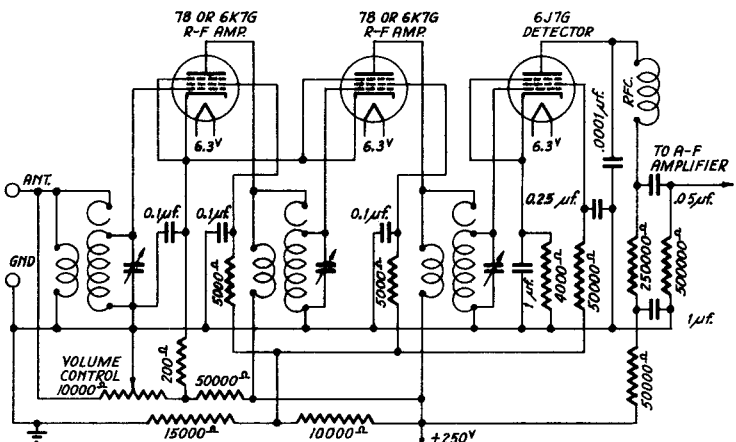
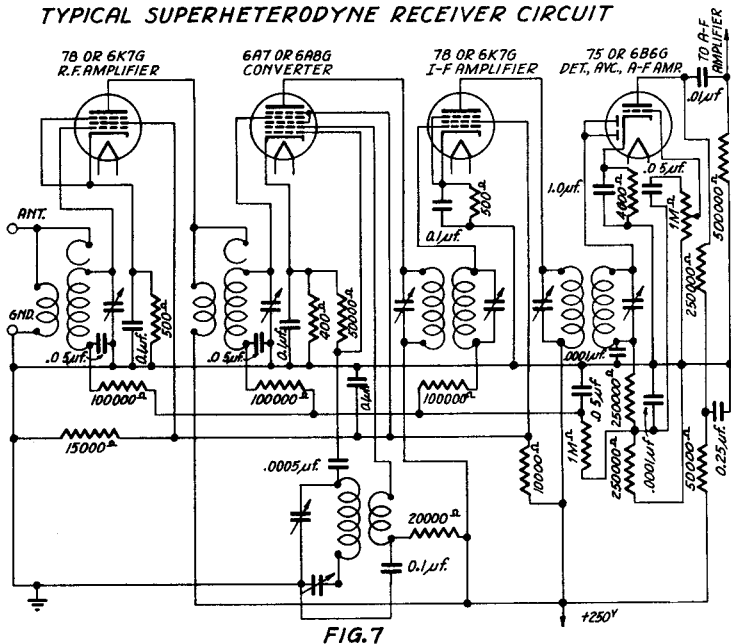
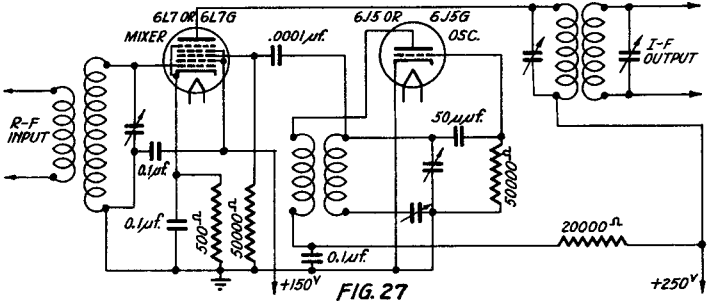

FIG. 6
FIG. 7
FIG. 27
**AMPLIFIERS** Two general types of amplifiers are used in radio receivers, high frequency amplifiers for radio and intermediate frequencies and low frequency amplifiers for audio frequencies. High frequency amplifiers are usually transformer coupled and may be used over a range of frequencies as in a tuned r-f receiver, or at a single frequency as in the i-f amplifier of a superheterodyne receiver. Pentode or tetrode tubes are commonly used in high frequency amplifiers because of their low grid to plate capacitance and high values of transconductance and plate resistance. Fig. 6 and Fig. 7 show typical high frequency amplifier circuits such as are used in a single r-f receiver and in a superheterodyne receiver.
In diode detector circuits certain precautions should be taken to insure linearity and low distortion with high percentage modulation. The r-f signal voltage applied to the diode should be approximately 10 volts, and the ratio of the a-c impedance to the d-c resistance in the diode circuit should be as high as possible. The a-c impedance is usually less than the d-c resistance in the diode circuit due to the shunting effect of the AVC network and the grid leak of the following audio amplifier tube. Therefore, the grid leak and AVC filter resistors should be as high as allowable in the grid circuits of the a-f and r-f amplifier tubes, and the diode load resistor should not be too high. The a-c/d-c impedance ratio may be improved by feeding the a-f amplifier and the AVC network from a tap on the diode load resistor, as shown in Fig. 7. While this connection reduces the sensitivity, it increases the a-c/d-c impedance ratio appreciably. The r-f by-pass condenser across the diode load resistor should not be too large as this will cause loss of gain and distortion at the higher audio frequencies.
Two tubes may be used, one as the oscillator and the other as the mixer, or first detector, or both functions may be combined in a single converter tube such as a type 6A7 or a 6AG6. Fig. 27 shows a typical frequency converter circuit using a pentagrid mixer tube and a separate oscillator. A typical pentagrid converter circuit using a single tube is shown in the circuit of Fig. 7.